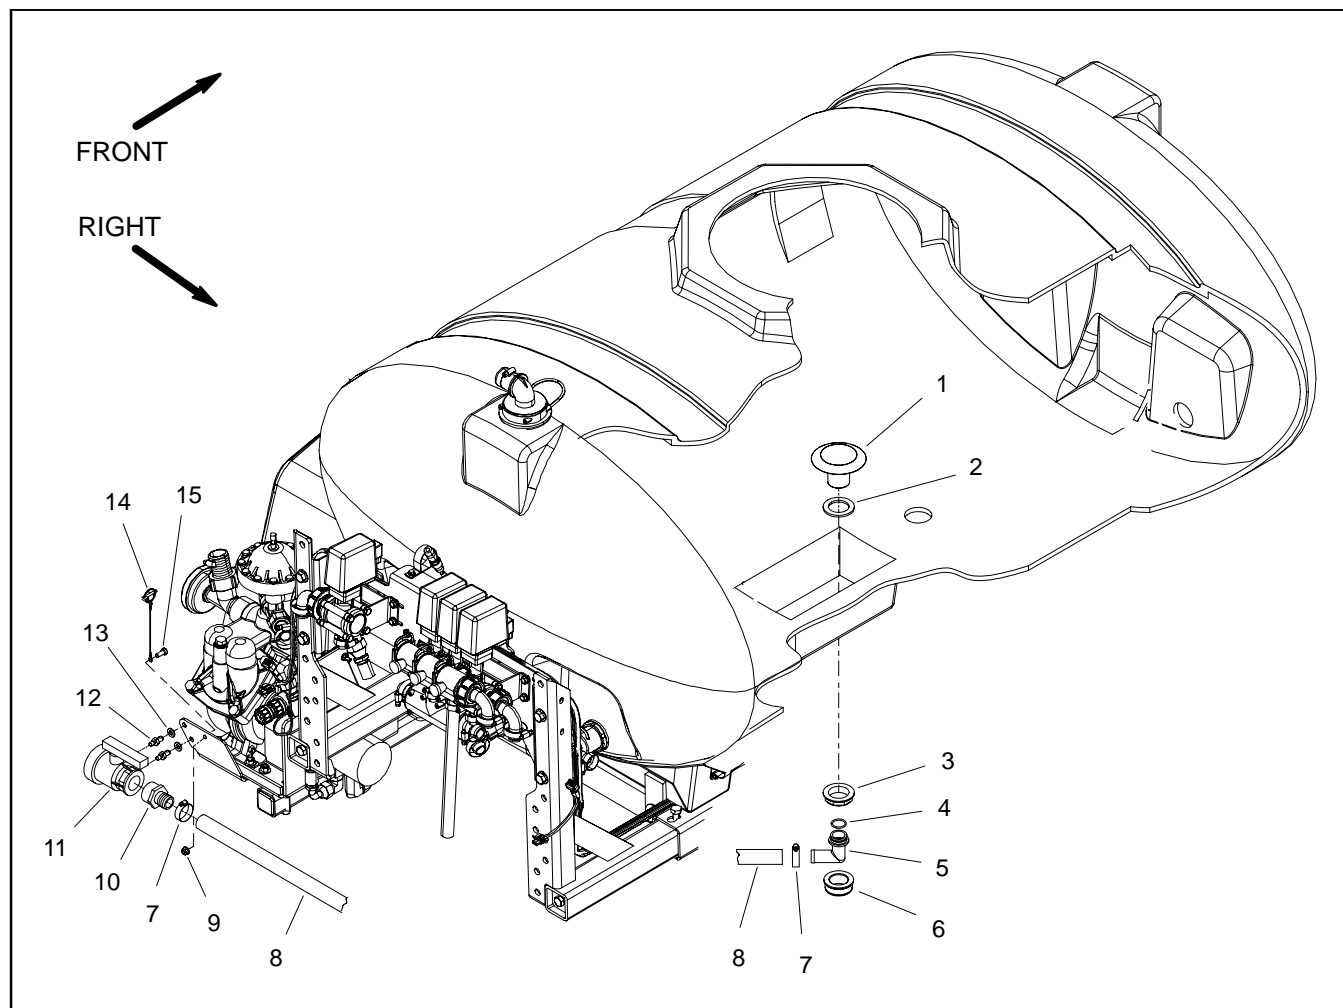

Figure 37.1
Disassembly (Fig. 37.1)
4. Disassemble drain assembly using Figure 37.1 as a guide. Discard all removed O-rings and gaskets.
Assembly (Fig. 37.1)
1. Assemble drain assembly using Figure 37.1 as a guide. Replace all removed O-rings and gaskets.